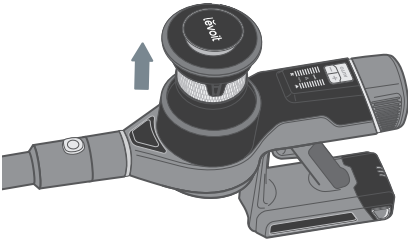

Figure 3.4
1. Pull up on the pre-filter housing to remove it from the top of the vacuum body [Figure 3.4].